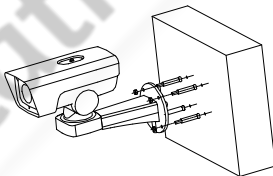

Figure 2-52 Install the Wall-mounted PTZ Bullet Camera
3. Fix the camera on the wall by knocking the expansion screws into the wall through the bracket, as shown in Figure 2-52.